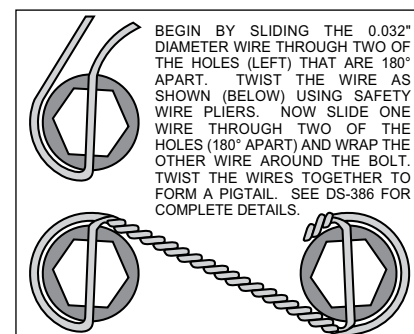

Figure 5. Safety Wire Diagram
- Slide the bracket kit assembly (1) onto the housing flange and then insert the axle assembly through the center hole of the bracket kit assembly (1). Align the bearing retainer (2) with the four holes inside the bracket assembly (1) and secure using the stock Original Equipment Manufacturer (OEM) bolts and nuts. Stock OEM hex nuts that retain the bracket kit assembly (1) and retainer (2) should be on the wheel side of the bracket. Apply red *Loctite*® 271 to the stock OEM bolt threads and torque to OEM specifications. Make sure the bracket kit assembly (1) brake pads are FACING OUTWARD TOWARDS THE WHEEL.
- With the larger I.D. side of the rotor (4) facing away from the hat (3), bolt rotor (4) to hat (3) through the backside of the rotor using washers (5) and bolts (6). Using an alternating sequence, apply red *Loctite*® 271 to the threads and torque bolts to 155 in-lb. For an added measure of security, the bolts may be safety wired using standard 0.032 inch diameter stainless steel safety wire as shown in Figure 5. Please refer to Wilwood's data sheet DS-386 (available at [www.wilwood.com/Pdf/DataSheets/ds386.pdf](http://www.wilwood.com/Pdf/DataSheets/ds386.pdf)) for complete safety wire installation instructions.
- Slide the rotor registration adapter (18) onto the axle register on the axle flange with the smaller O.D. facing toward the rotor/hat (3). Align the correct hole pattern in the hat with the stud pattern on the axle flange. **NOTE:** Some OEM and aftermarket axles come with stud sizes larger than 0.50" diameter. Verify stud size and have a qualified machine shop drill the hats to the correct size, if necessary. Slide the hat/rotor assembly (3 and 4) over the wheel studs covering the bracket kit assembly (1) and against the axle flange face. Check to be sure the hat seats squarely against the hub. Install a couple of lug nuts (finger tighten) to keep the rotor/hat assembly in place while continuing with the installation.